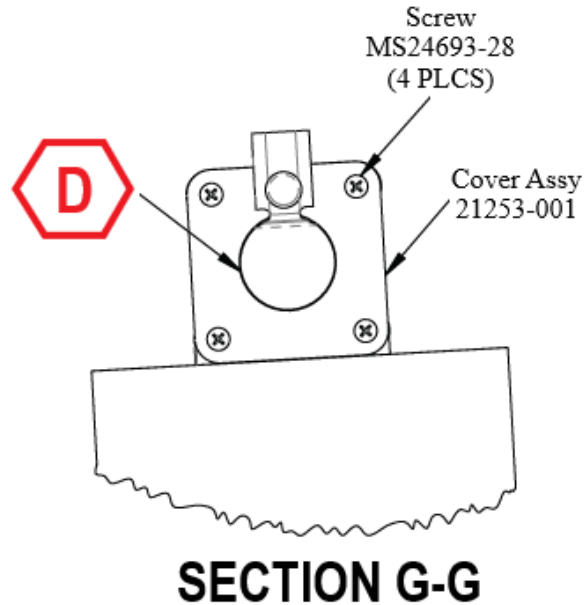

Figure 5: Section G-G Showing Cover Assembly for H80, G10, T34 or T65HG Aircraft
9. Drill 1.00 inch hole through lower wing skin from Turn Light Assy 33401004-001. Refer to Figure 5, section D.